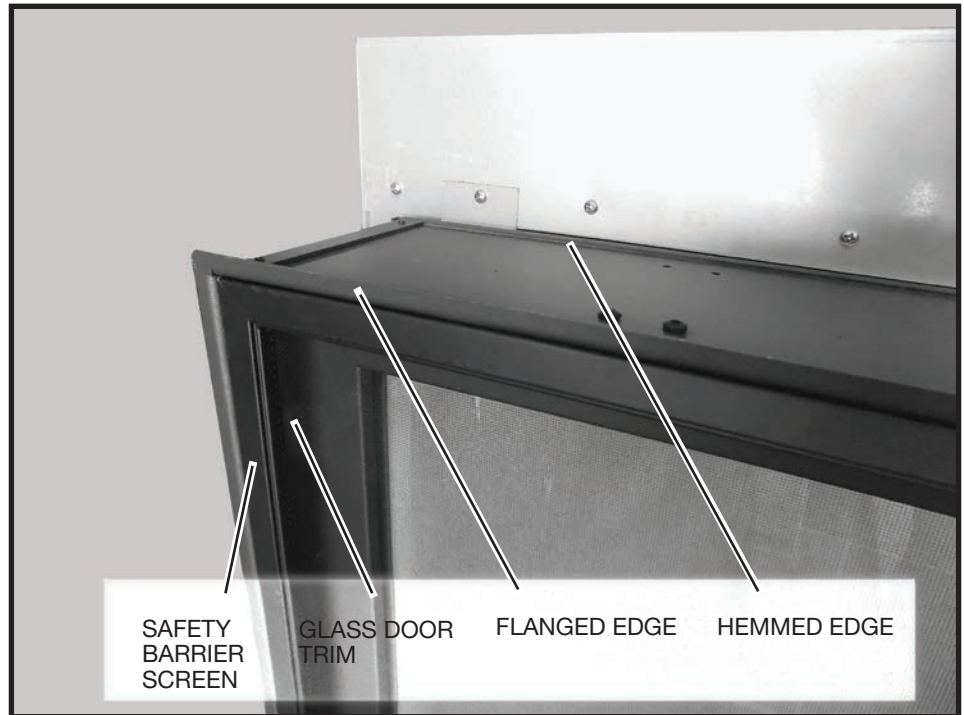

Figure 18: TC42D Lintel and trim.
3. Remove the glass door trim (Figure 18).